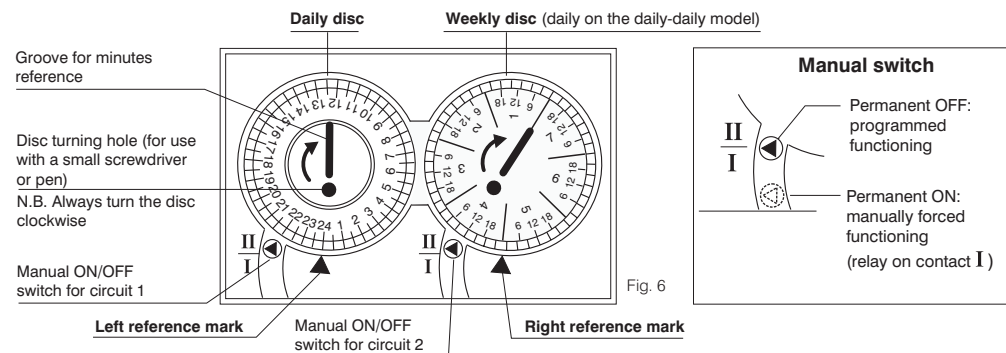

Fig. 6
- Turn the **left hand** (daily) **disc clockwise** until **its reference mark** (triangle) points to 24 (00) hours.
- Turn the **right hand** (weekly) **disc** until **its reference mark** (triangle) points to the 24 (00) hour mark of the correct day (1=Monday, 2=Tuesday etc.). The two discs are now synchronised. (**note:** Fig. 6 shows the right hand disc set at 24 (00) hours on day 5 = Friday only by way of example).